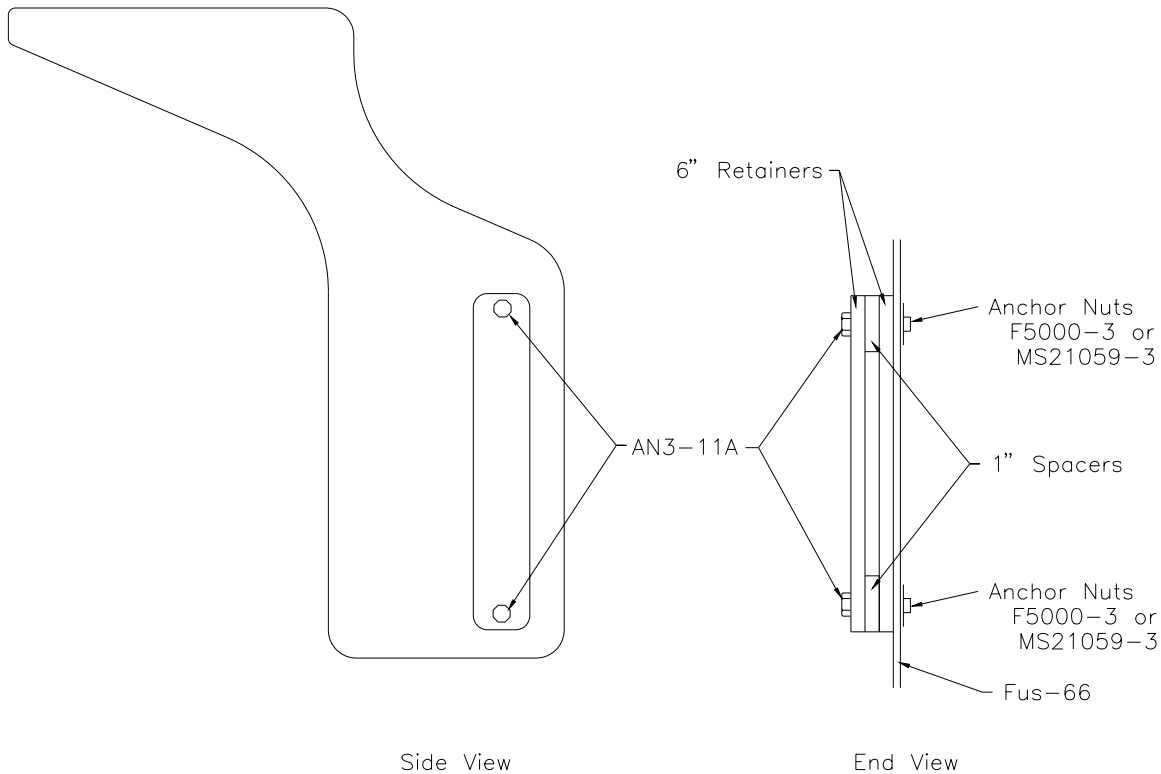

Figure 20.5.14
22) Bolt the retainers into position with AN3-11A bolts. Figure 20.5.14.